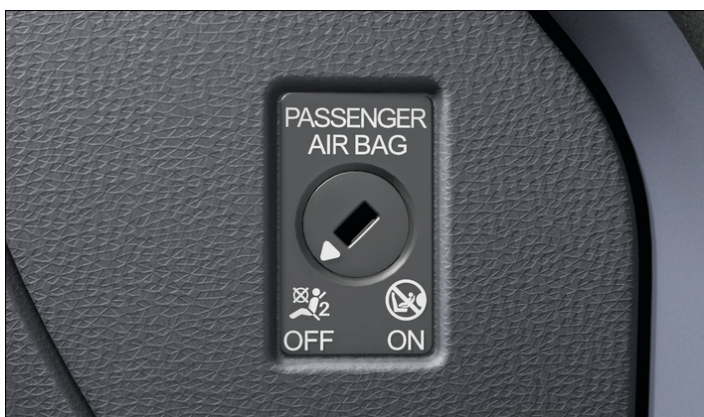

Fig. 1 In the dash panel on the front passenger side: key-operated switch for deactivating and activating the front airbag on the front passenger side
- Insert the key bit into the key-operated switch on the dash panel until you feel the second point of resistance → *Fig. 1*. Around three quarters of the key bit should be inserted in the key switch at this point → ①.
- Turn the vehicle key, without using force, to the position ② **ON**.